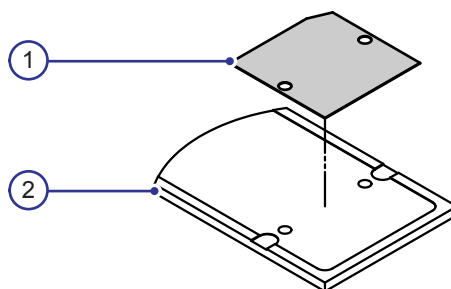

Figure 1.10 Put the film at the inner surface of a thin film holder
- 2 Put a film (1) at the inner surface of a thin film holder (2) so that the positioning holes in the film and thin film holder align, see Figure 1.10. Repeat this for the desired number of films.